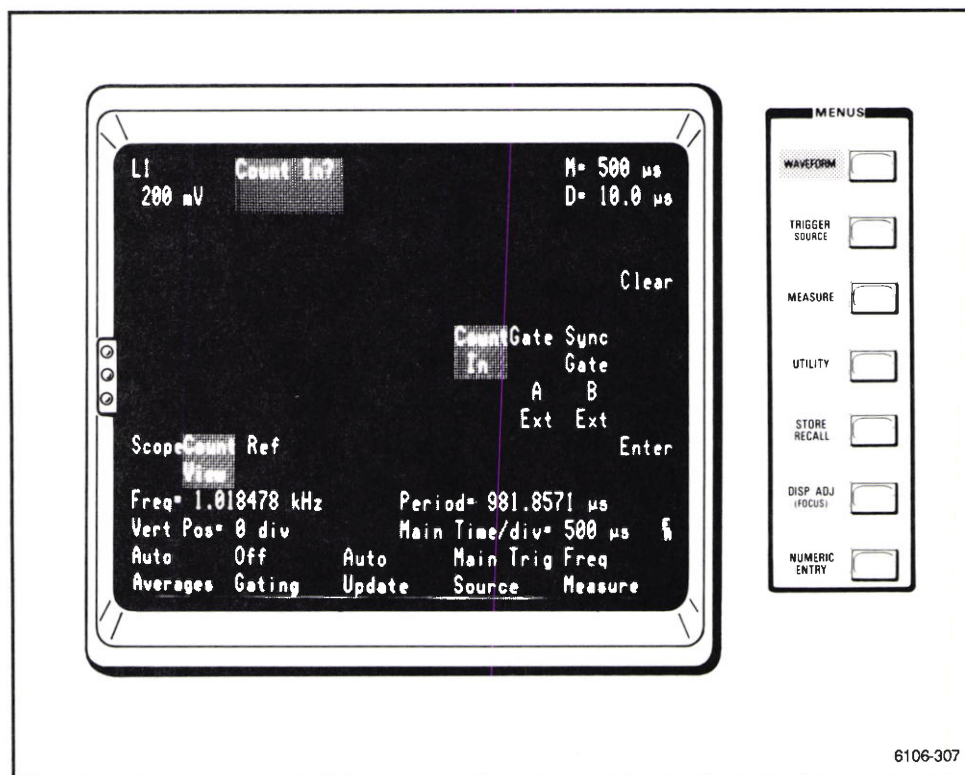

Figure 2-108. Setting the WAVEFORM menu for Counter View.
2. Press the WAVEFORM major menu button and touch *Count View*, located toward the left of the screen. To display the counter input signal, touch the *Count In* menu entry. (See Fig. 2-108.)